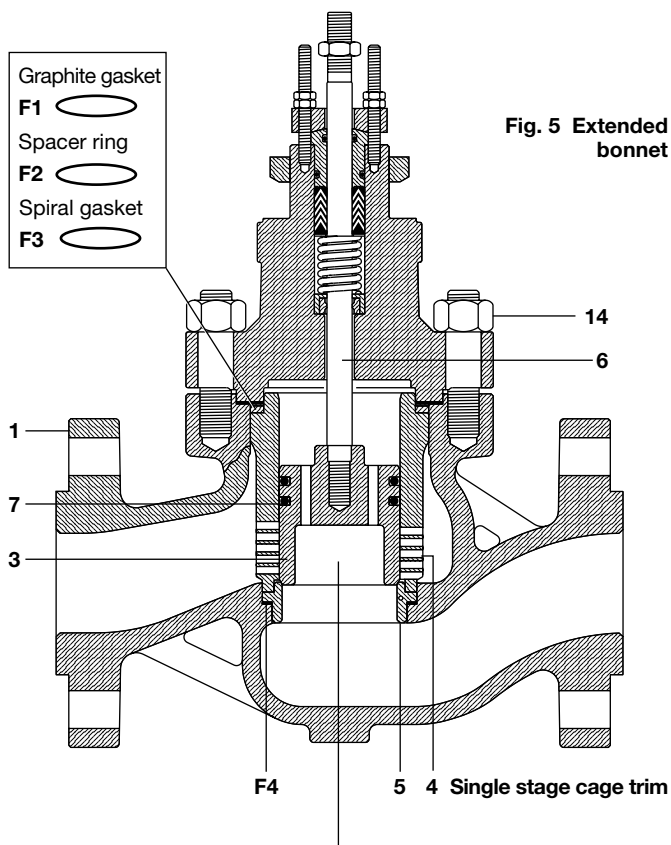

Fig. 5 Extended bonnet
4.5.2 Disassembly valves with bellows sealed bonnet (refer to Fig. 5):